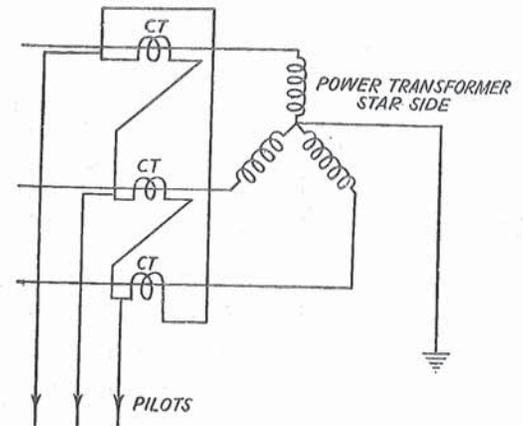
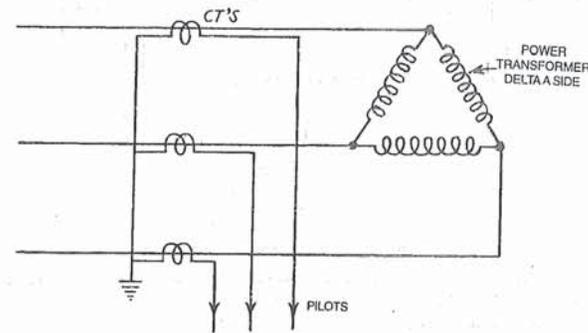

Fig. 32.6. Connection of CT secondaries on star side. (Contd.)
Fig. 32.7. Connections of CT secondaries on delta side.
(b) **CT connections.** Fig. 32.6 gives the connections of CT's for a star side and Fig 32.7 shows connections of a delta side.
- Secondaries of CT's on star connected side of power transformer are connected in delta (Fig. 32.6).
- Secondaries of CT's connected on delta side of power transformer are connected in star (Fig. 32.7). With such arrangement,